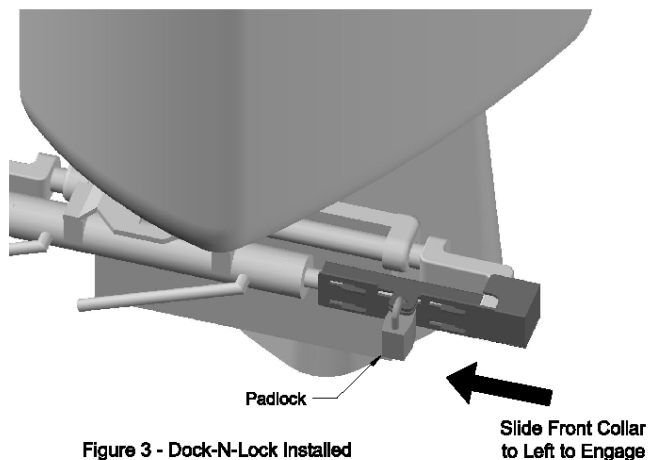

Figure 3 - Dock-N-Loc Installed
5. With the rear collar engagement teeth protruding through the front collar and while still holding the rear collar, slide the front collar toward the outboard engine (see Figure 3). This will temporarily lock the front collar with the rear collar and align the front and rear collar locking tongues.